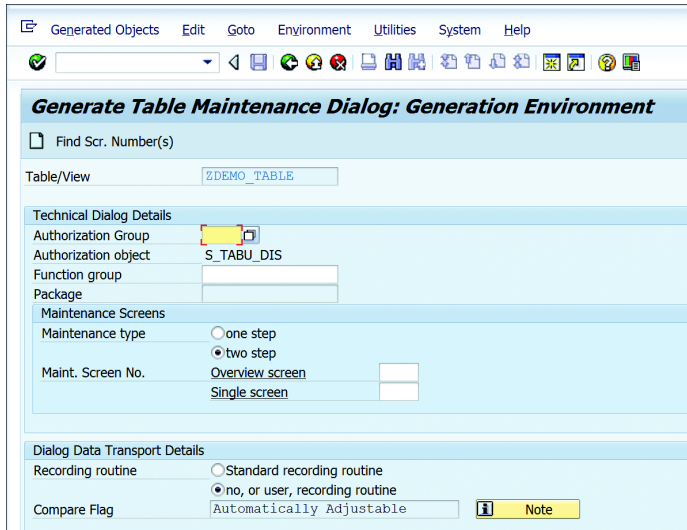

Figure 10.19 Table Maintenance Generator
- Follow the menu path UTILITIES • TABLE MAINTENANCE GENERATOR. This will open the GENERATE TABLE MAINTENANCE DIALOG: GENERATION ENVIRONMENT window, as shown in Figure 10.19.